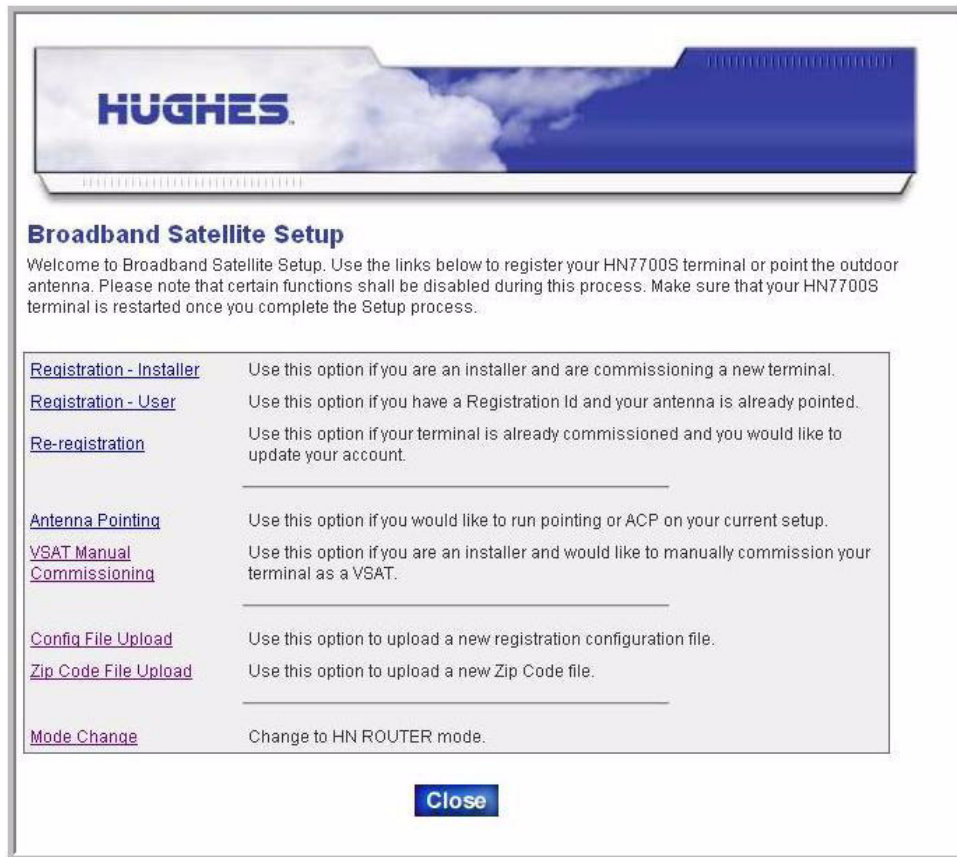

Figure 9: Setup screen
5. The Broadband Satellite Setup screen displays as shown in Figure 9.